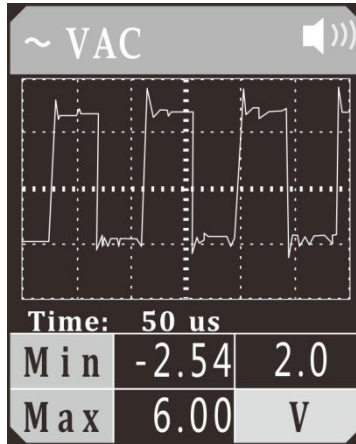

Figure 13
- 5) Release vacuum and observe the LCD readings. (Figure 13)